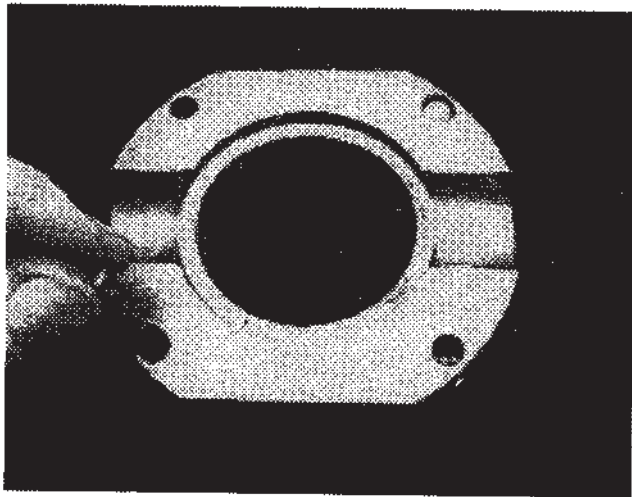

Figure 5
2. **Place a shear pin into each window hole.** It should be about flush (**Figure 5**).
3. **Place a spacer into the center** of each driver as seen in **Figure 5**, (wide end toward the teeth if the spacer is not symmetrical).